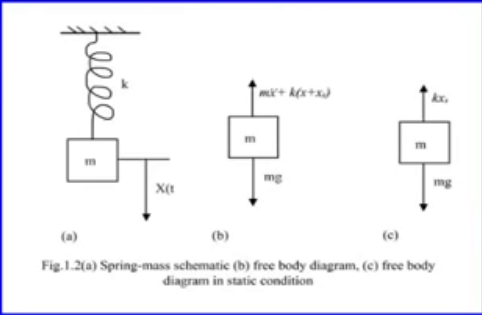

Fig.1.2(a) Spring-mass schematic (b) free body diagram, (c) free body diagram in static condition
Most of the system exhibit simple harmonic motion or oscillation. These systems are said to have elastic restoring forces. Such systems can be modeled, in some situations, by a spring-mass schematic, as illustrated in Figure 1.2.
**(A) Spring Mass System**
- Applying static condition as shown in Fig. 1.2 (c) the equation of motion of the system yields